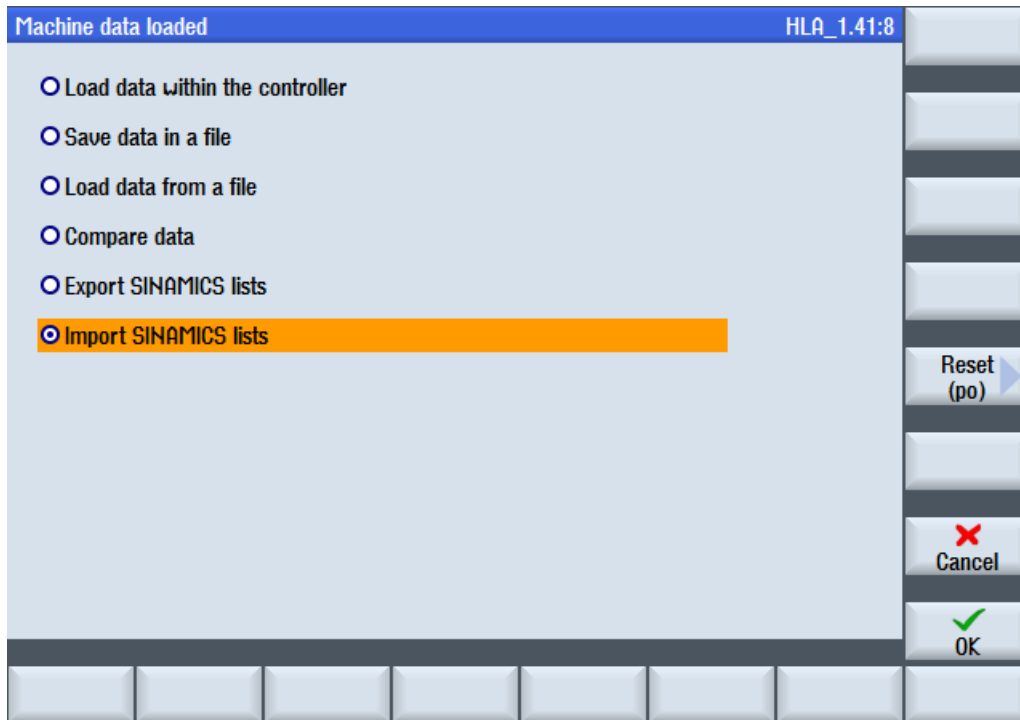

Figure 5-21 Loading machine data
3. You can access the "Machine data loaded" dialog using the "Manage data" softkey (see Figure 5-21 Loading machine data (Page 82)).